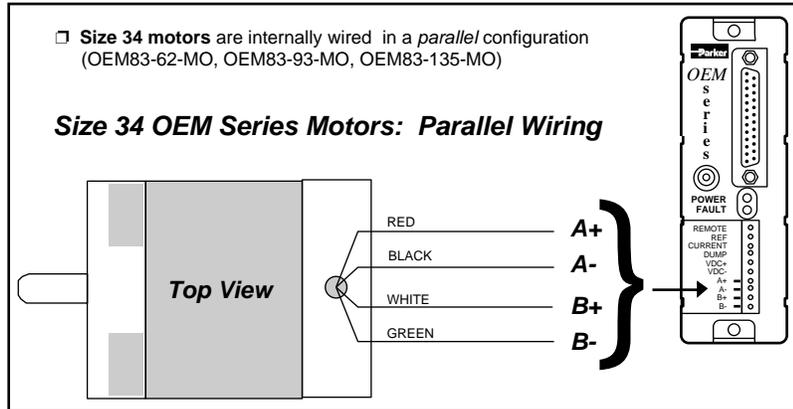

Figure 2-3. NEMA 34 Size OEM Motor Wiring—Series
4. Attach the motor (to A+, A-, B+, B-). Do not connect the motor to the load at this time (refer to Figure 2-2 for 23 size motors or Figure 2-3 for 34 size motors). OEM size 23 motors may be wired in a series or parallel configuration. *If you are using a 75VDC power supply (OEM300) with the drive or drive indexer, Compumotor recommends that you use a series configuration, however; a parallel configuration should be used when the power supply is 24VDC - 48VDC. Parallel configurations will cause the drive to dissipate slightly more heat than a serial configuration. This increase in drive temperature will not affect the unit's performance, but it may adversely affect heat-sensitive devices that are stored within the same enclosure.*